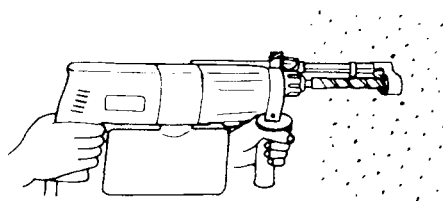

Fig. 5
- (1) Mount the drill bit.
- (2) Pull the trigger switch after applying the drill bit tip to the drilling position. (Fig. 5)
- (3) Pushing the rotary hammer forcibly is not necessary at all. Pushing slightly so that drill dust comes out gradually is just sufficient.
When the drill bit touches construction iron bar, the bit will stop immediately and the rotary hammer will react to revolve. Therefore please grip the side handle and handle tightly as shown in Fig. 5.